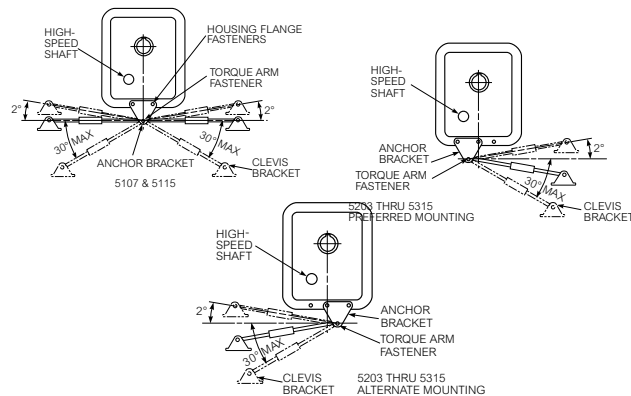

Figure 2
- Lift the drive into position and slide onto the drive shaft taking care that the driven shaft key seats into the hollow shaft keyway. DO NOT hammer or use excessive force. Refer to Figure 2 for installation of the torque arm. The exact position of the tie rod may vary within the range shown. For torque arm mountings other than shown, refer to Rexnord. If it is necessary to shorten the torque arm, cut the excess from either threaded end.